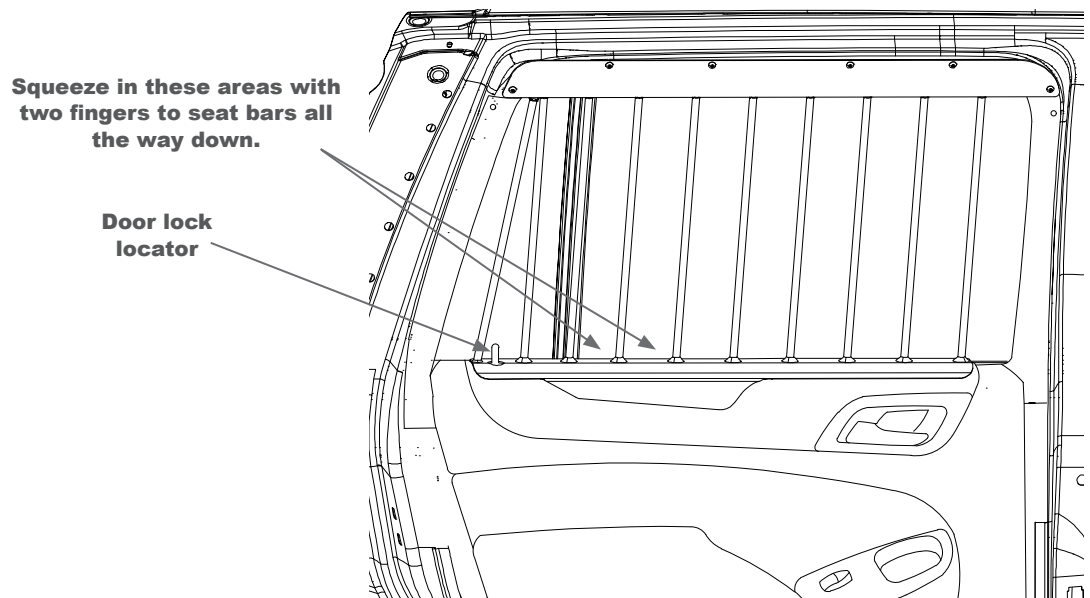

Fig. 1
- B. Put the window bars in place and use the door lock to locate window bars. To seat the window bars use both hands to grip and clamp the trim so that the tabs on the window bars go into the window track area. (See fig. 1)